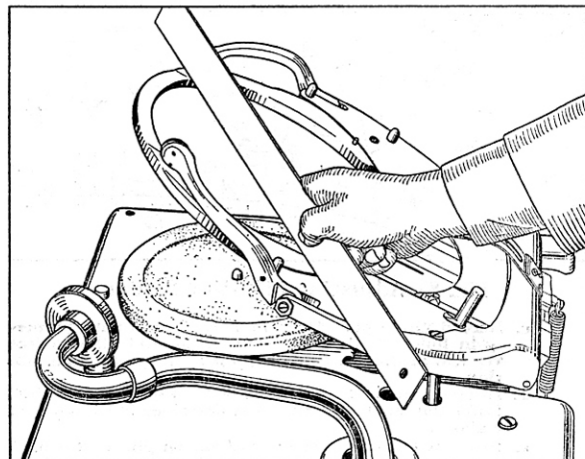

Fig. 7—Straight Edge on Lift Ring
2. With the lift ring in its highest position, turn the hopper adjusting nuts so that the top surface of the hopper is exactly flush with the top of the lift ring. A straight edge can be used as a gauge for this height. It should be placed across the two surfaces as shown in Fig. 7. This same method should then be used for gauging the height on the opposite side of the hopper. Turn the hopper support screws so that there can be an additional upward movement of the hopper of approximately  $\frac{1}{8}$ " on each side with the hopper resting on each top adjusting nut. This amount of play will prevent any possible binding of the lift ring and hopper. Adjust the lift ring screws as shown in Fig. 8, until the ends touch the under side of the hopper when the ring is in its highest position.